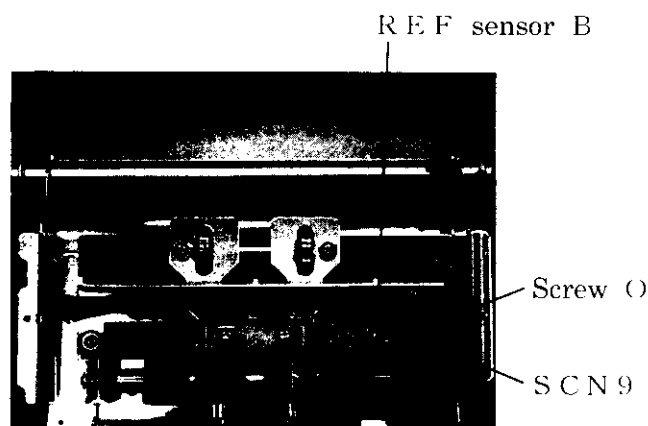

Fig. 2 0
- ① Take off front cover by referring to 【 4 】 .
- ② Take off screw P (CRW 3 × 6 : 1 pc) and connector bracket. (Fig. 2 1)
- ③ Loosen screws Q (HSS 3 × 3 : 2 pcs) and clutch. (Fig. 2 1)